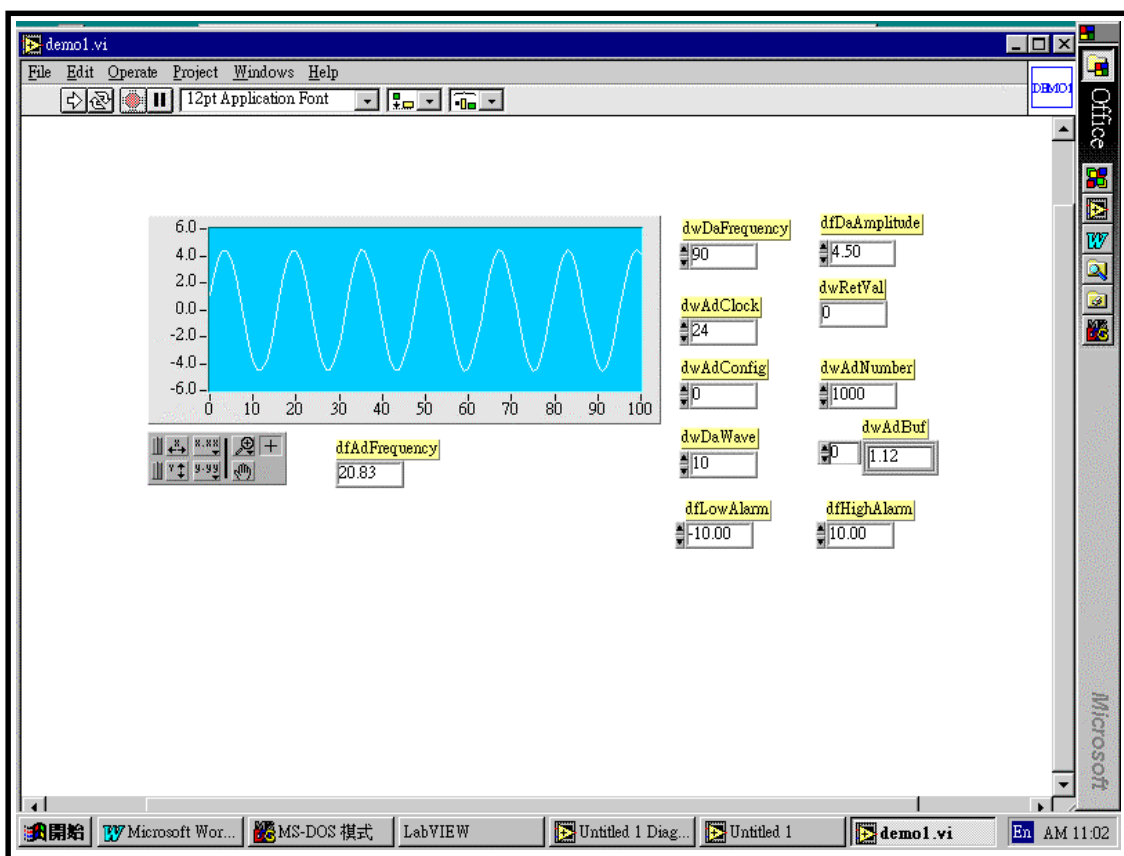
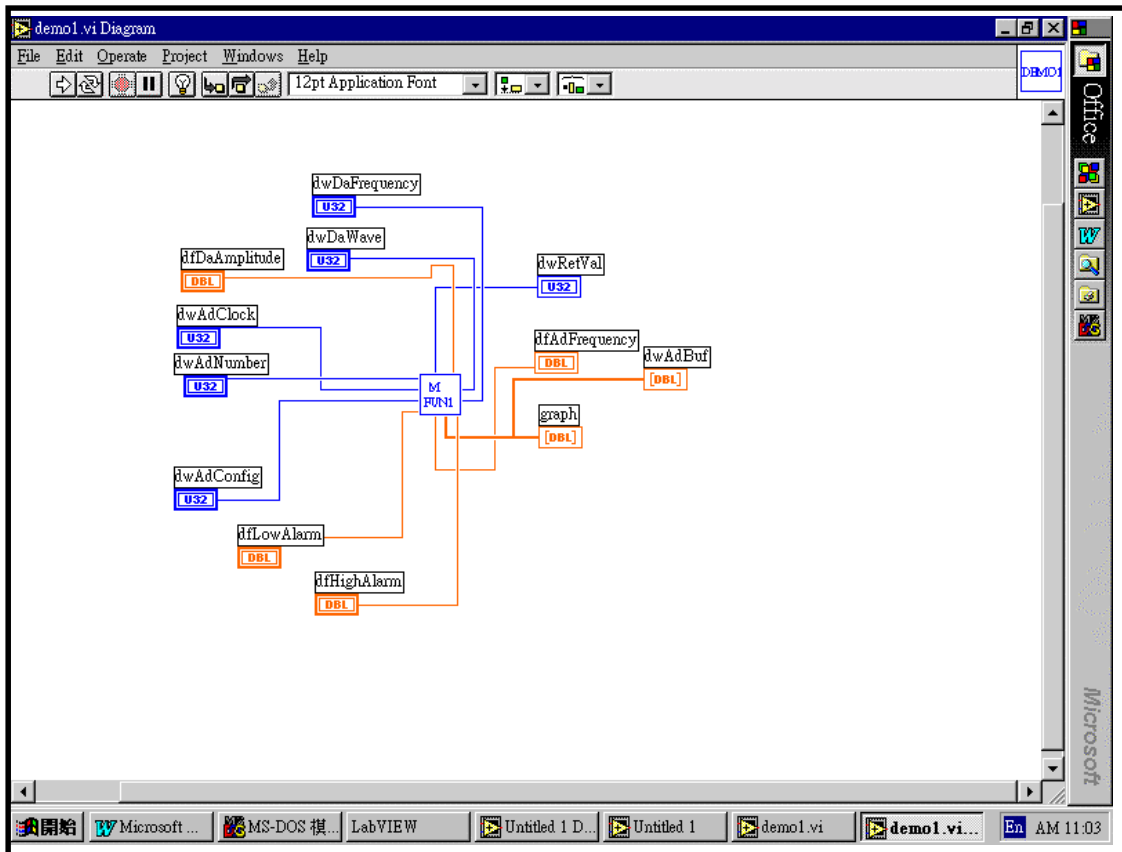

Fig 8. The output of DEMO1.VI. (call M_FUN_1)
Fig 9. The connecting diagram of DEMO1.VI (call MFUN1.VI)
2. The demo1.VI will call MFUN1.VI to perform M_Functions. The M_Functions can send out the arbitrary wave form to the D/A output port and perform A/D operation at the same time. If connect the D/A channel_0 to A/D channel_0, the D/A output can be measured back by M_Functions. The output response is shown in Fig 8 and the connecting diagram of demo1.VI is given in Fig. 9.